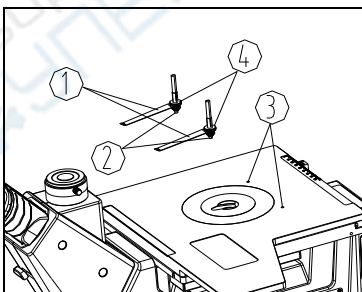

Fig. 9
(1) Take out clips ① from ②. (Fig.9)
(2) Screw ② into hole on stage and lock.
(3) Put clips ① into ② and make it points to stage Center.